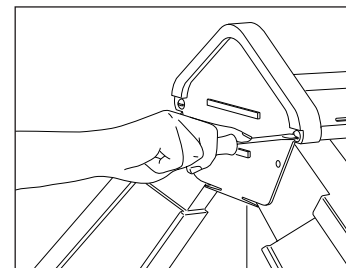
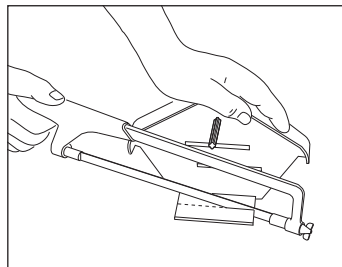

Fig. 7 – Screw fix ridge end cap
Fig. 9 – Cutting end cap flange
- 11 If required, trim flange of ridge and cap to fit between top course verge units (Figs. 9 and 10). Screw ridge end cap to end of dry ridge batten by locating 25mm x 8g stainless steel screws into end of circular beads on upper flange (Fig. 7).
- 13 If required, trim flange of ridge end cap to fit between top course verge units (Figs. 9 and 10). Top course verge unit is secured to end of top course tiling batten in normal manner.